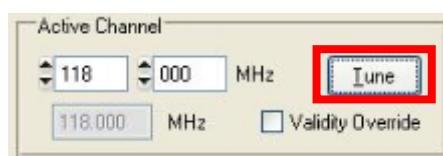

Figure 74 Setting VDL Transceiver Frequency to 118 MHz
- 2) Set the Mode 2 active channel frequency to 118.000 MHz by entering 118 MHz in the Active Channel box and clicking "TUNE" (Figure 74)
- 2) Set the Mode 2 active channel frequency to 118.000 MHz. (Figure 74)